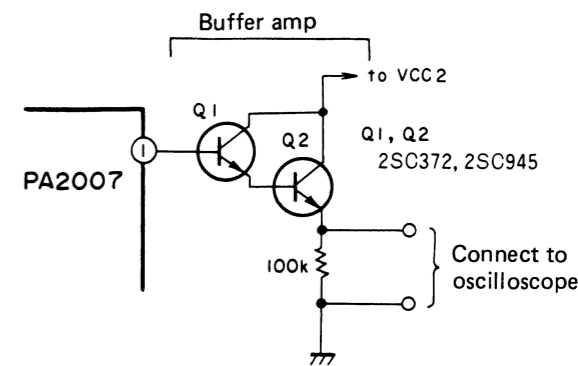

Fig. 11-4 Connect buffer amp
2. Connect a buffer amp to pin 1 of IC PA2007, and connect the output to a oscilloscope (Fig. 11-4).